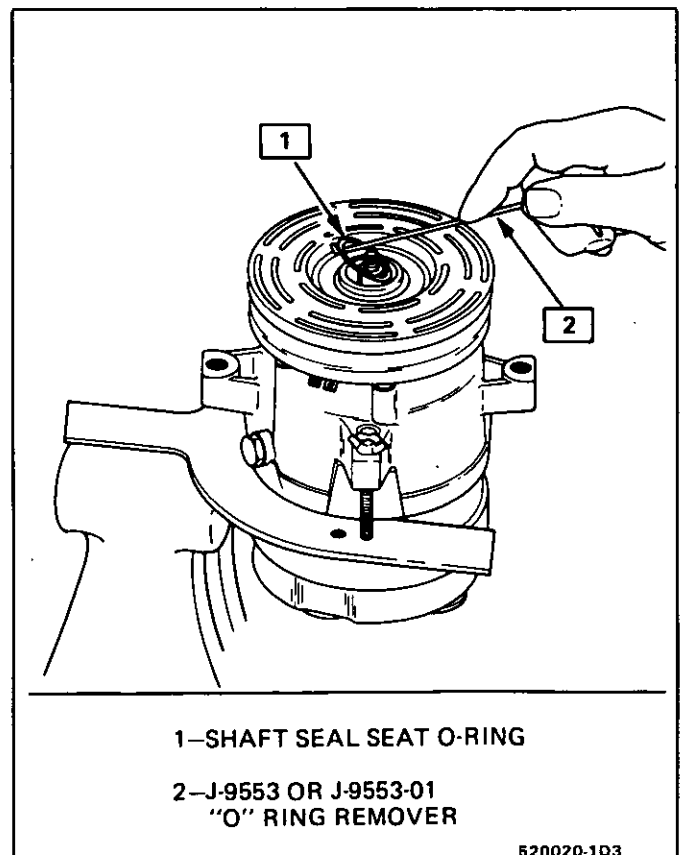

Fig. 26 Removing Shaft Seal Seat O-Ring
7. Remove and discard the seal O-ring from the compressor neck using O-ring remover J-9553 or J-9553-01 (Fig. 26).
1. Dip the new seal O-ring in clean 525 viscosity refrigerant oil and assemble onto O-ring installer J-33011 (Fig. 26).